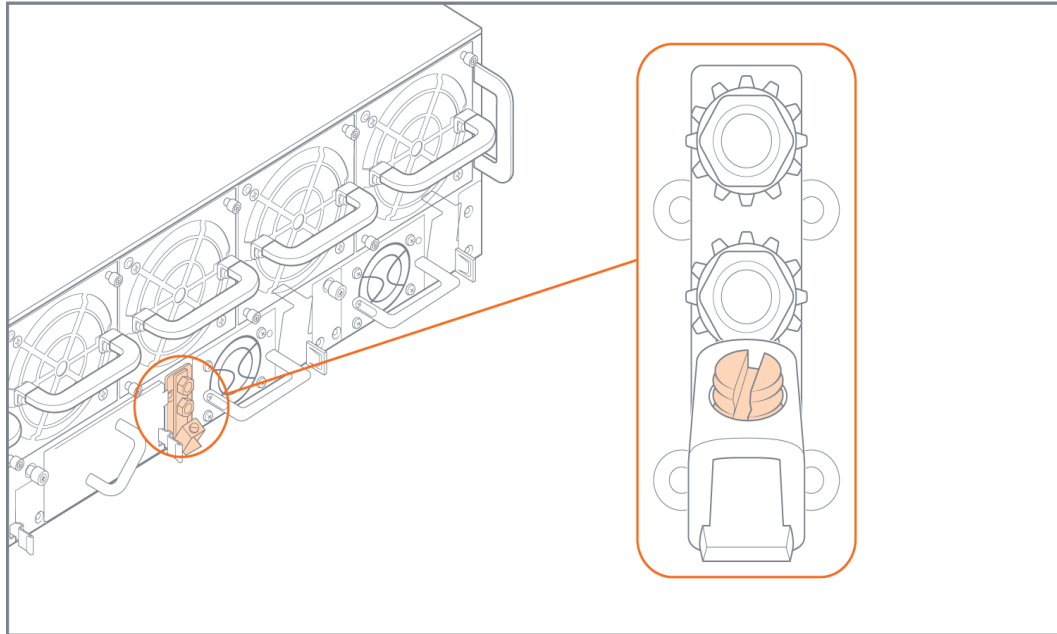

Figure 4-1: Grounding Lug on Rear of GigaVUE-HC3
1. Locate the grounding lug at the center rear of the chassis. Refer to Figure 4-1 on page 74 (or Figure 1-3 on page 11) for the location on a GigaVUE-HC3 node.